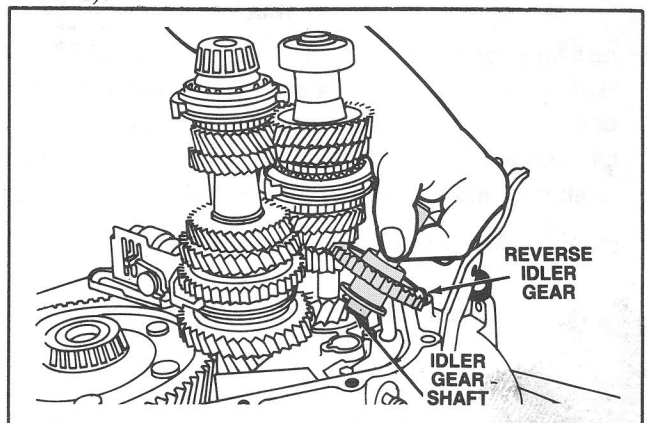

Figure 41 Reverse Idler Gear Removal
11. Remove the reverse idler gear and shaft. (Figure 41).